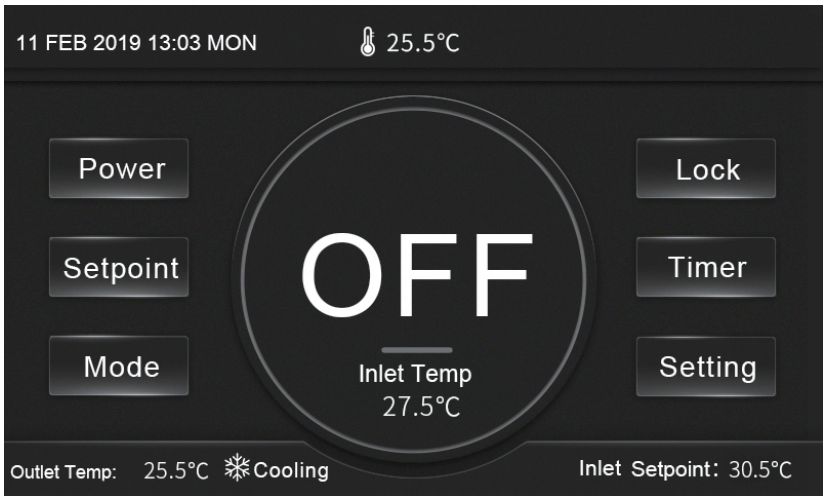

Fig.2 Power-off interface
In the main interface, press “Mode” button ③ to select cooling or heating mode. And then status bar ⑧ will display the current operating state. While in the main interface of power-on (Fig. 2), the display circle ⑨ colour will be changed according to the operating state (cooling: blue; heating: red).